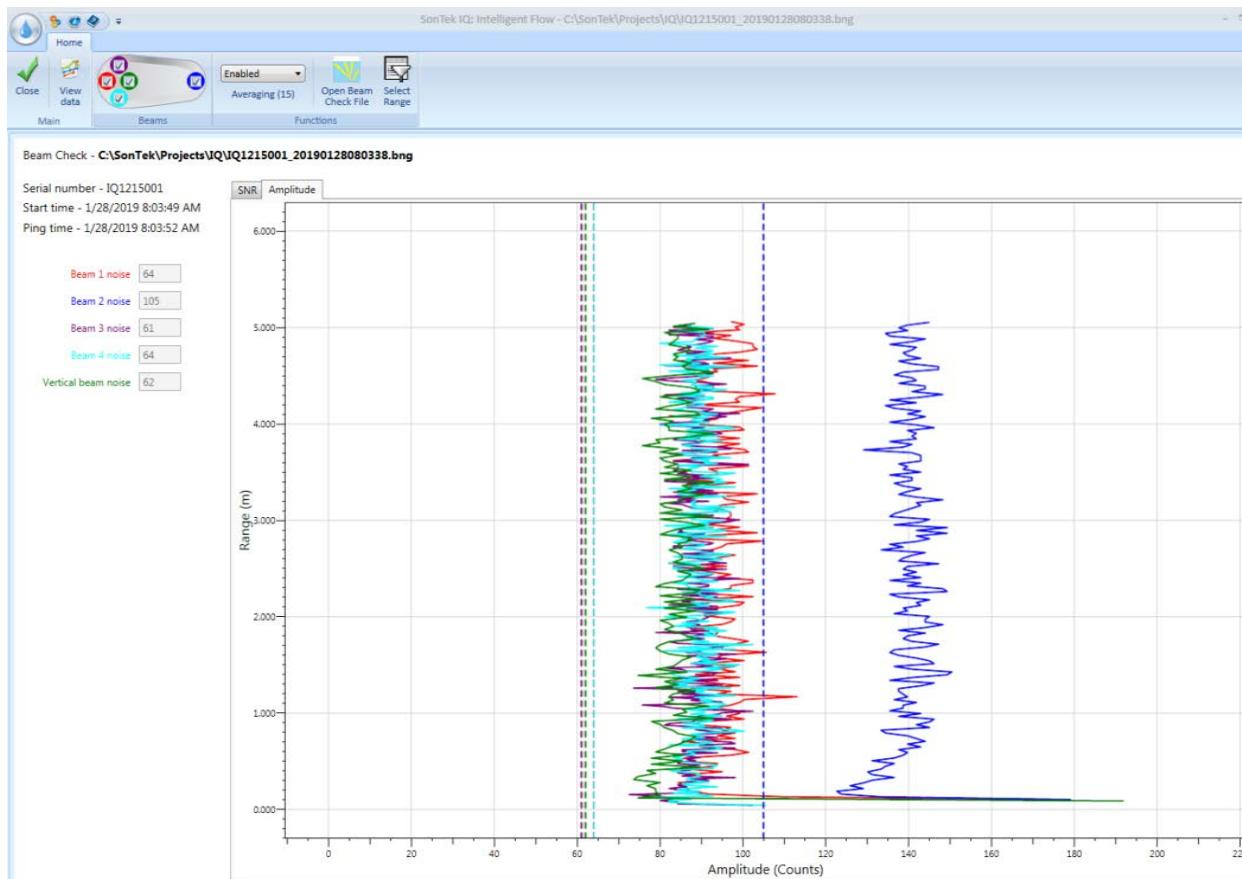

Figure 66. IQ Software Beam Check Window
- Figure 66 presents the Beam Check window.